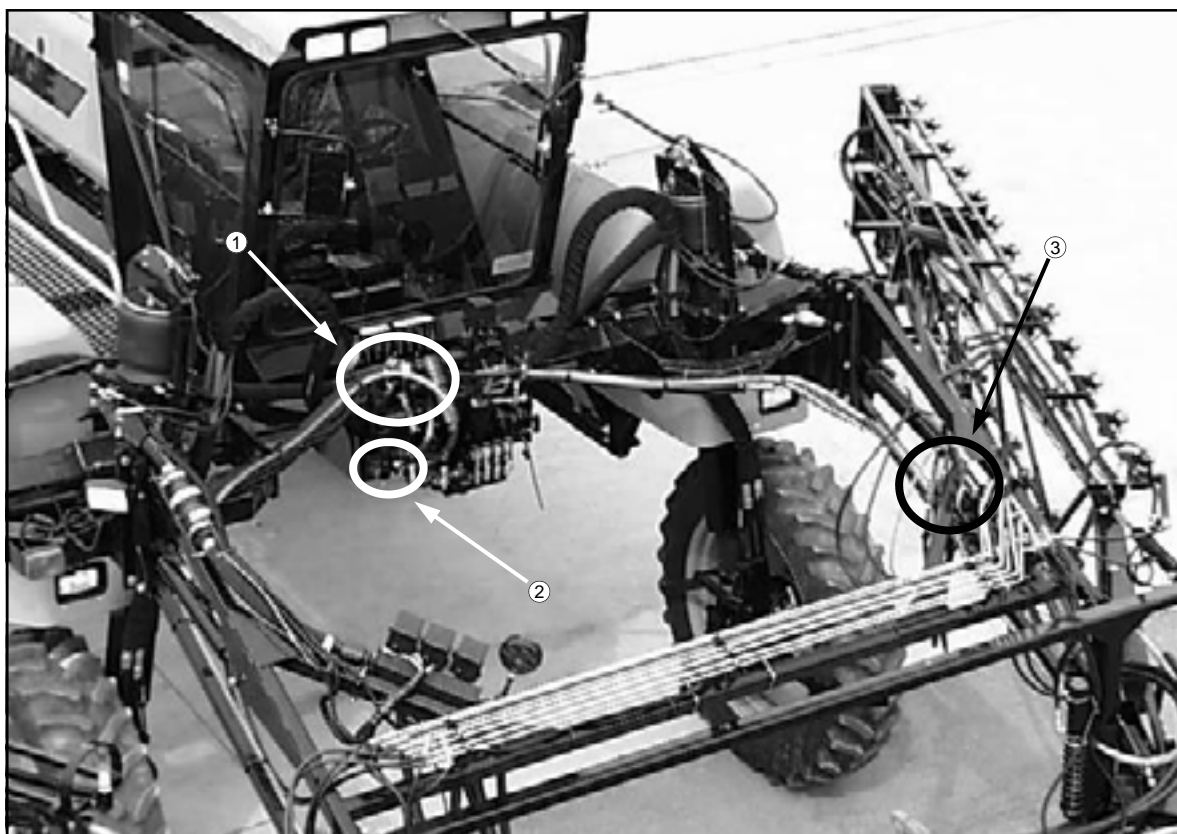

FIG 3.3
- Solution supply quick-couple (fig. 3.3, item 1).
- Foamer supply quick-couples (fig. 3.3, item 2).
- Boom indicator lights wire harness (fig. 3.3, item 1).
- Boom control stack valve wire harness (fig. 3.3, item 1).
- Raven control wire harness (fig. 3.3, item 1).
- Solution valve wire harness (fig. 3.3, item 1).
- Hydraulic quick-couplers on boom control stack valve (fig. 3.3, item 3).